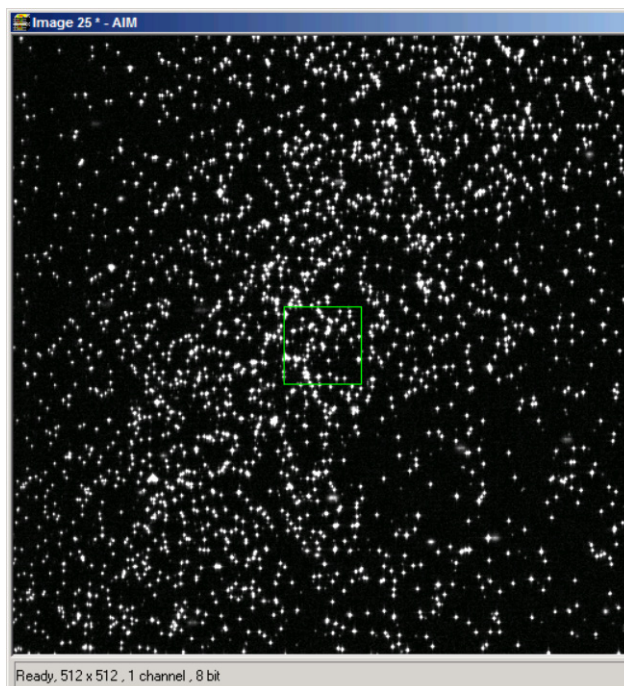

Fig. 12 Beads optimally focused
- Now use the **Collimator** slider to get a round spot out of the line (Fig. 12).